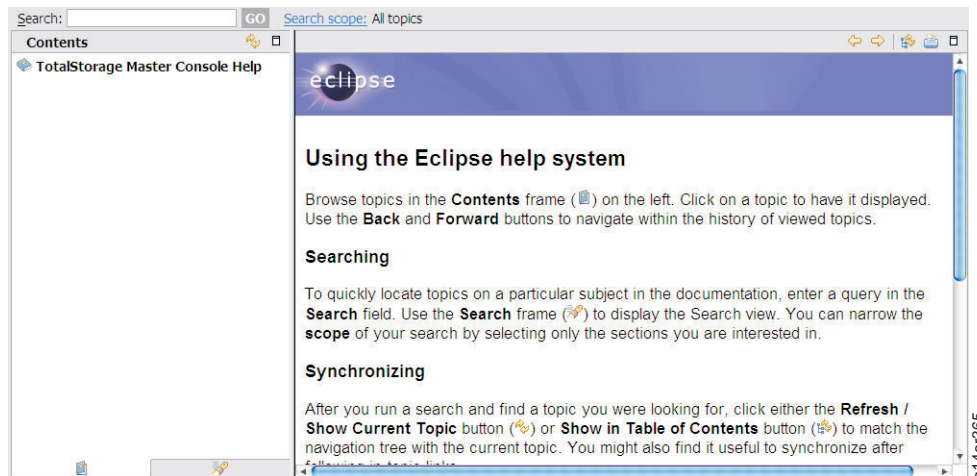

Figure 3-98. Launching InfoCenter Window. Though not shown here, your selection will appear below "TotalStorage Master Console Help."
2. From the Main Menu, select **Browser Functions** > **Launch InfoCenter**. A browser window appears, as seen in Figure 3-98 on page 3-77. This can take as long as 15 seconds to open.